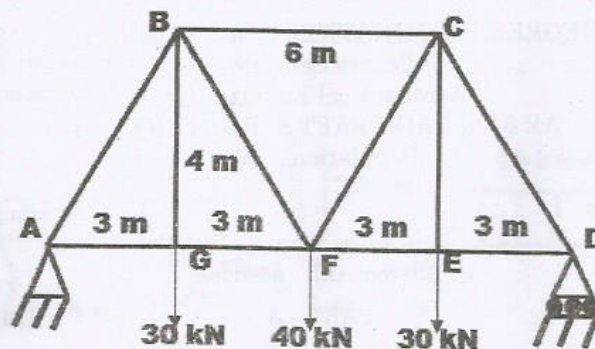

Fig. 1.
11. a) Determine the forces in the members of the truss shown in the Fig. 1.